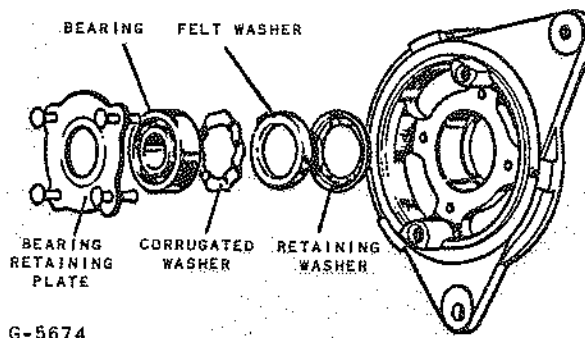

Fig. 9 - Exploded View of Typical Drive End Bearing
- (1) Drill out the rivets which secure the bearing retaining plate to the end bracket and remove the plate.
- (2) Press the bearing out of the end bracket and, remove the corrugated washer, felt washer and oil retaining washer. See Fig. 9.
- (3) Before fitting the replacement bearing see that it is clean and pack it with lithium base multi-purpose lubricant.
- (4) Place the oil retaining washer, felt washer and corrugated washer in the bearing housing in the end bracket.
- (5) Locate the bearing in the housing and press it home.
- (6) Fit the bearing retaining plate. Insert the new rivets, from the inside of the end bracket and open the rivets by means of a punch to secure the plate rigidly in position.